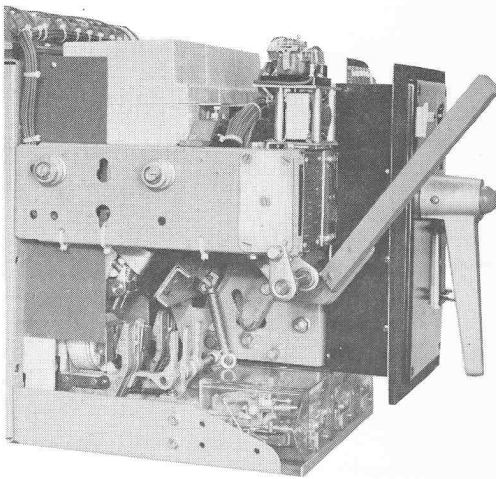

Figure 5
5. Insert maintenance closing handle #1151-9252 as in Figure 5 and slowly operate until arcing contacts touch. All arcing contacts should make simultaneously with a permissible variation of $1/32$ max. Moveable arcing contact fingers should align with stationary arcing contacts.